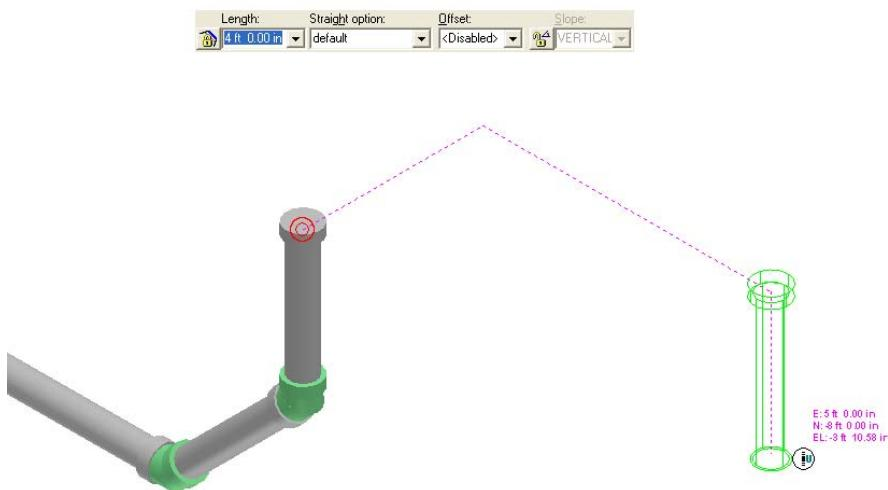

Figure 40: Routing the Pipe in the El Direction
72. Select the **Lock slope** option on the **Route Pipe** ribbon to unlock the slope constraint and position the cursor downwards from the starting point. A SmartSketch indicator will display a U glyph. This glyph indicates that you are going down the Z-axis, as shown in Figure 40.